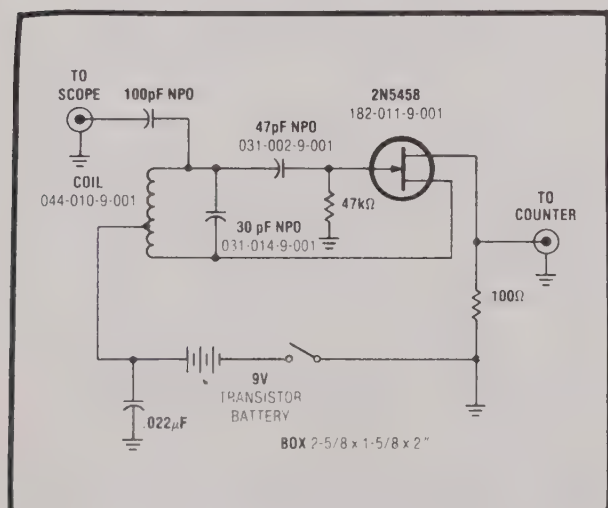
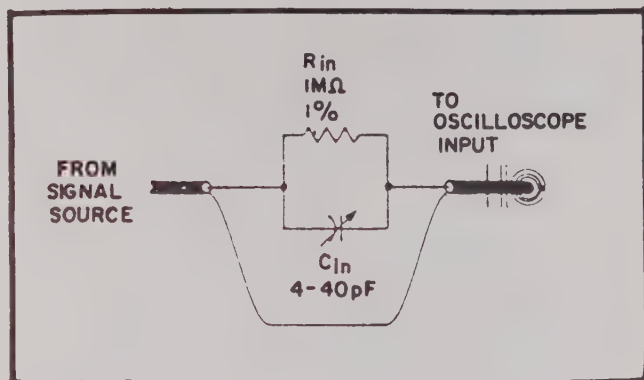

Fig. 23. Schematic of Test Oscillator for Input Capacitance Adjustment.
Fig. 24. Network for Alternate Input Capacitance Adjustment.
Fabricated RF Oscillator (Fig. 23).
first using the non-adjustable capacitance of the input FETs on the non-attenuated range (5 mV/div) as reference, then trimming the input capacitor of each attenuator section to match. A measurement corresponding to the reference capacitance is established by connecting it as the tuning capacitor of a test oscillator (Fig. 23). This causes the test oscillator to operate at a reference frequency. The reference frequency is measured on a frequency counter. The specific frequency at which the test oscillator operates is not critical, but the frequency should be stable at approximately 5 MHz. The attenuator is then switched to other ranges. For each attenuator section, the associated trimmer capacitor is adjusted so the test oscillator again operates at the reference frequency. A non-metallic tool should be used for adjusting trimmers.
1. Build the test oscillator shown in Fig. 23 and connect it to the frequency counter and the CH A input of the oscilloscope as shown. No input signal is applied during this procedure
An alternate method of adjusting input capacitance, although not as accurate as the previous method, may be used if the test oscillator of Fig. 23 is not available. This method requires the simpler network shown in Fig. 24. This network is essentially a 2:1 probe, since the 1 MΩ resistance of the network and the 1 MΩ input resistance of the vertical attenuator form a voltage divider. A 10:1 probe could also be used, except that a square wave of at least 100 volts p-p (not commonly available) would be required for adjustment of the 5 V/div attenuator setting.
1. Connect the network of Fig. 24 between a square wave generator and the CH A INPUT of the oscilloscope.